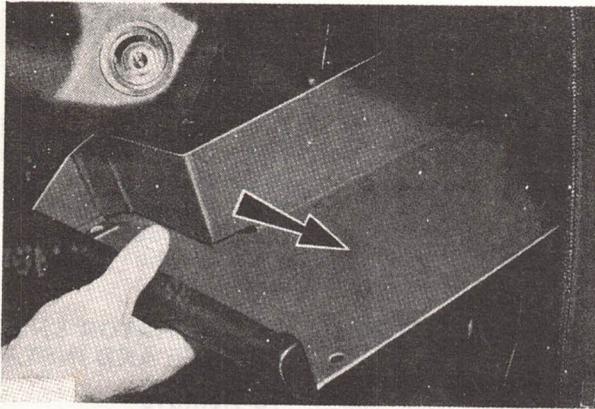

Fig. 6. Removal of right hand parcel shelf.
2. Remove right hand parcel shelf, Fig. 6. Secured by two screws and two pegs.